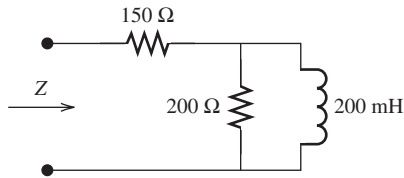

FIGURE P6.20 Circuit for Problem 6.20.
- 6.20 (B)* What is the total impedance of the circuit in the Figure P6.20, if the frequency of the circuit is $200/\pi \text{ Hz}$? Provide the answer to two decimal places.